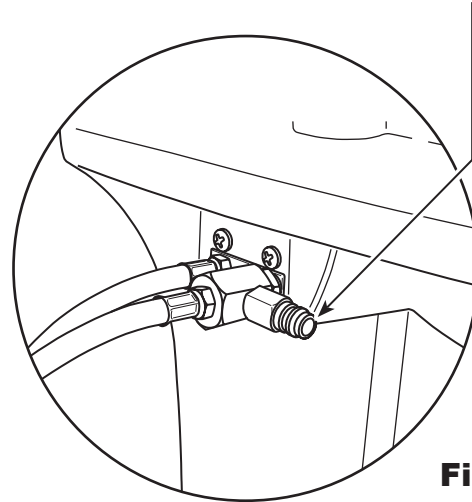

Figure 21
1. With the machine still connected to the vehicle and the couplers open, connect the low-side (blue) coupler from the 25700 to the contaminant recovery port on the back of the machine. See Figure 21. Open the coupler valves.